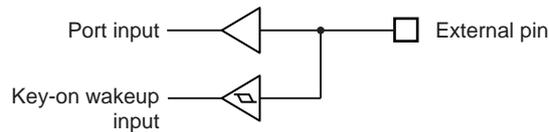

Figure 16-2 Key-on Wakeup Input and Port Input
- Note 3: The input circuit of Key-on Wakeup input and Port input is separated, so each input voltage threshold value is different. Therefore, a value comes from port input before STOP mode start may be different from a value which is detected by Key-on Wakeup input (Figure 16-2).